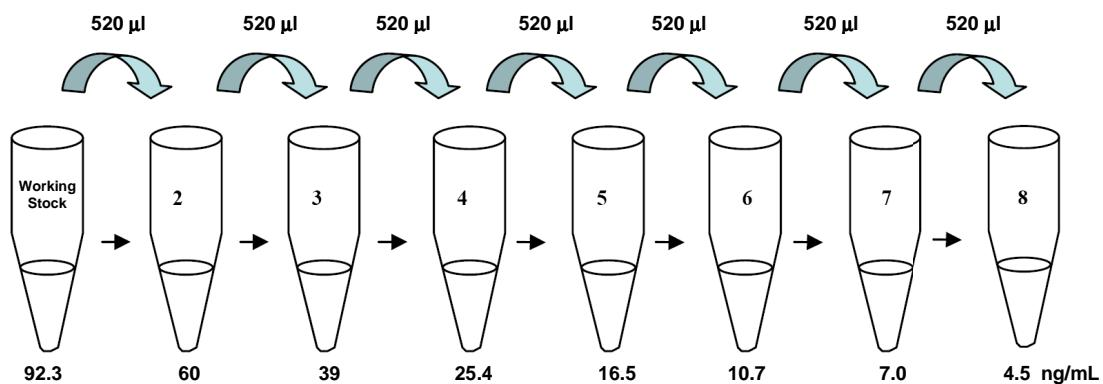

Figure 2: Schematic of serial dilutions and concentrations for preparation of standards.
4. Perform a serial dilution by adding 520 μ L of each preceding standard to tubes #3-8 (Refer to Figure 2). For example, to make standard #3, remove 520 μ L of standard #2 and add it to tube #3 and vortex. Do not add any protein standard to the "0" or blank tube.